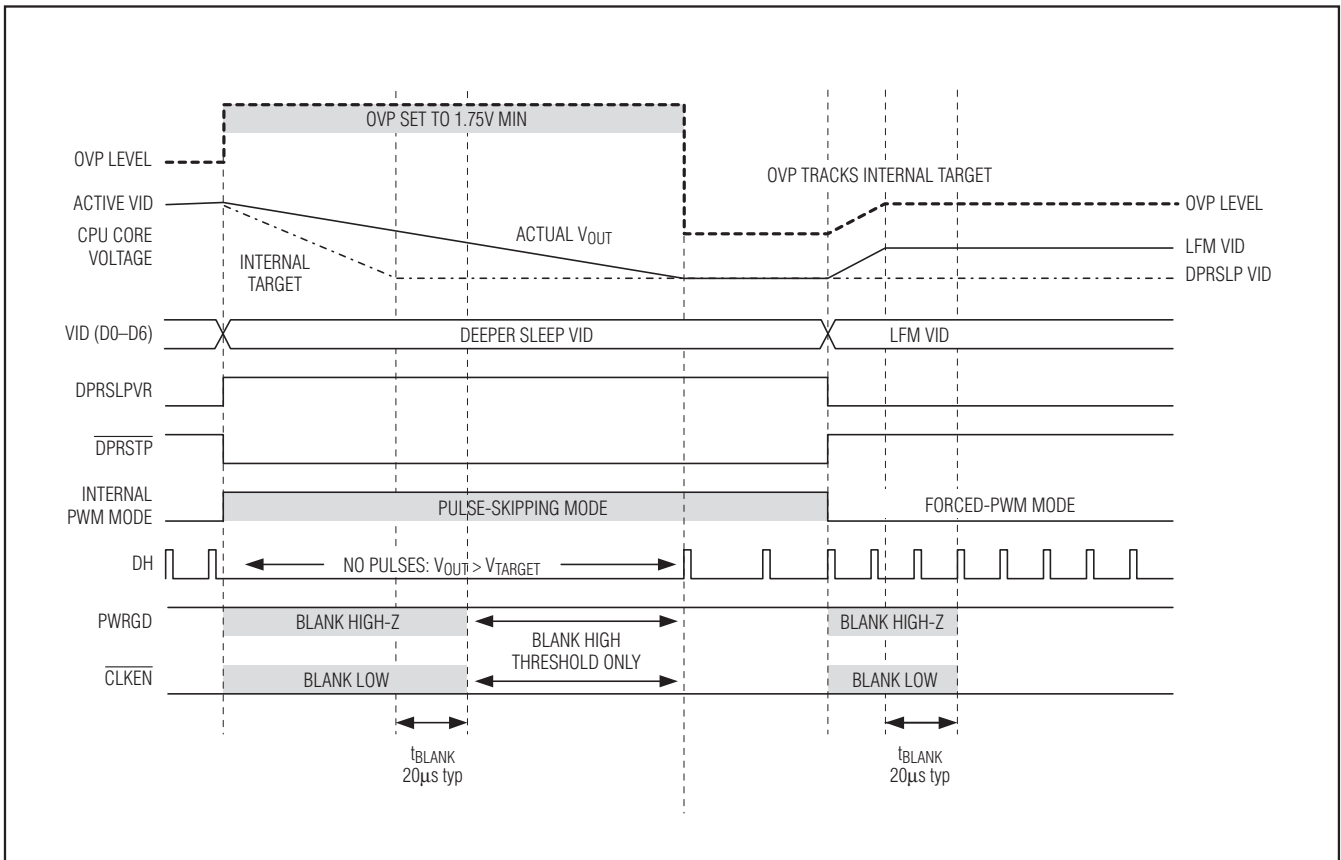

Figure 6. Standard IMVP-6 C4 Transition
- Standard C4 deeper sleep exit:** When exiting deeper sleep (DPRSLPVR pulled low) while the output voltage is regulating to the deeper sleep voltage, the MAX8796/MAX17401 immediately ramp the output voltage to the LFM DAC code provided by the processor at the slew rate set by RTIME. The controller blanks PWRGD and $\overline{\text{CLKEN}}$ (forced high impedance) until 20 μs after the transition is completed. See Figure 6.